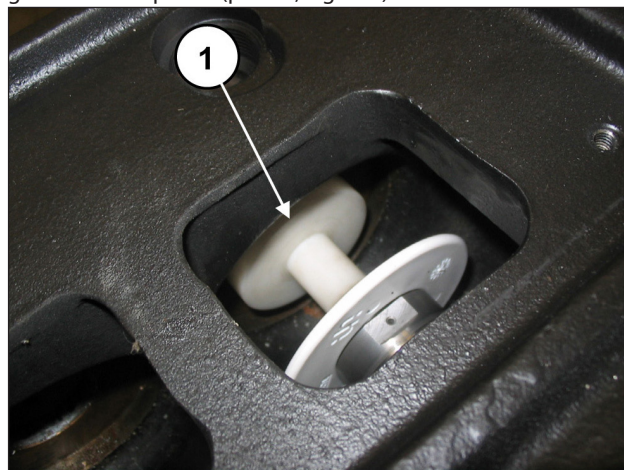

Fig. 134
Manually turn the shaft in such a way to bring the three pistons progressively to the top dead centre position and insert the buffer tool code 27516600 between the piston guide and the piston (pos. ①, Fig. 134).